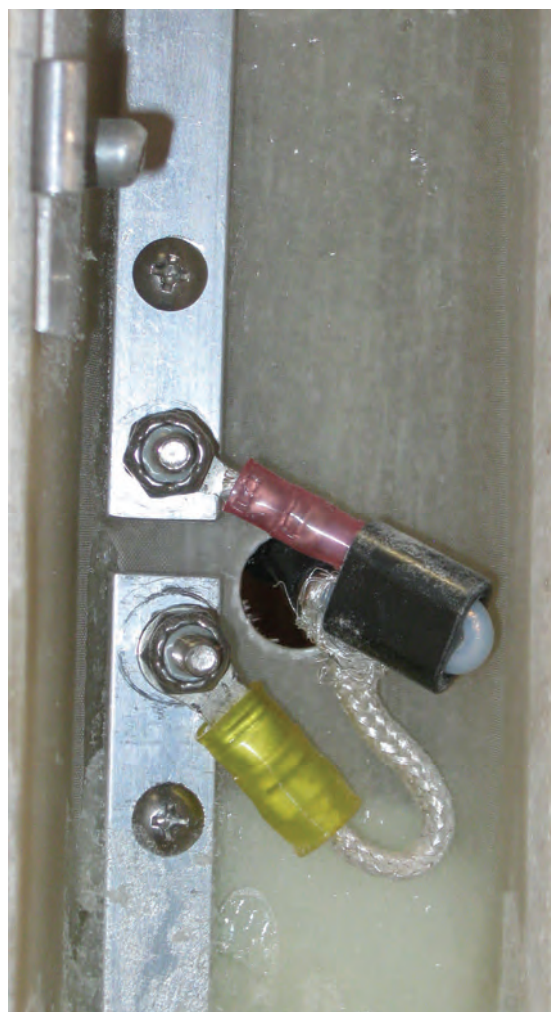

Figure 11-6: Ferrite baluns sealed onto antenna cable with heat-shrink tubing (left) and finished antenna wiring showing double-holed balun (right).
1. Refer to Figure 11-6 for more information.
11. Slide the single-hole baluns and heat shrink up next to the two-hole balun. Heat the heat shrink to secure the string of baluns as shown in Figure 11-6.